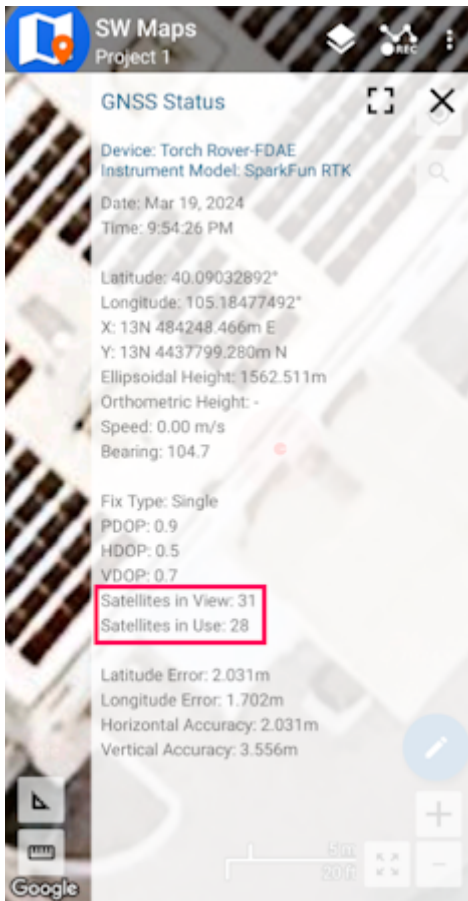

Figure 3
7. Now put the device outside with a clear view of the sky. GNSS doesn't work indoors or near windows. Press the SW Maps icon in the top left corner of the home screen and select **GNSS Status**. Within about 30 seconds you should see 10 or more satellites in view (SIV) (Figure 3). More SIV is better. We regularly see 30 or more SIV. The horizontal positional accuracy (HPA) will start at around 10 meters and begin to decrease. The lower the HPA the more accurate your position. This accuracy is around 2m in normal mode.